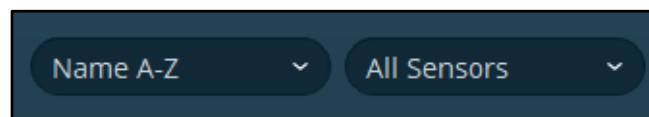

Figure 19. Sort Sensor Menus
2. Search for a sensor. See Sort the Sensor List (page 48) and Figure 19. Sort Sensor Menus.